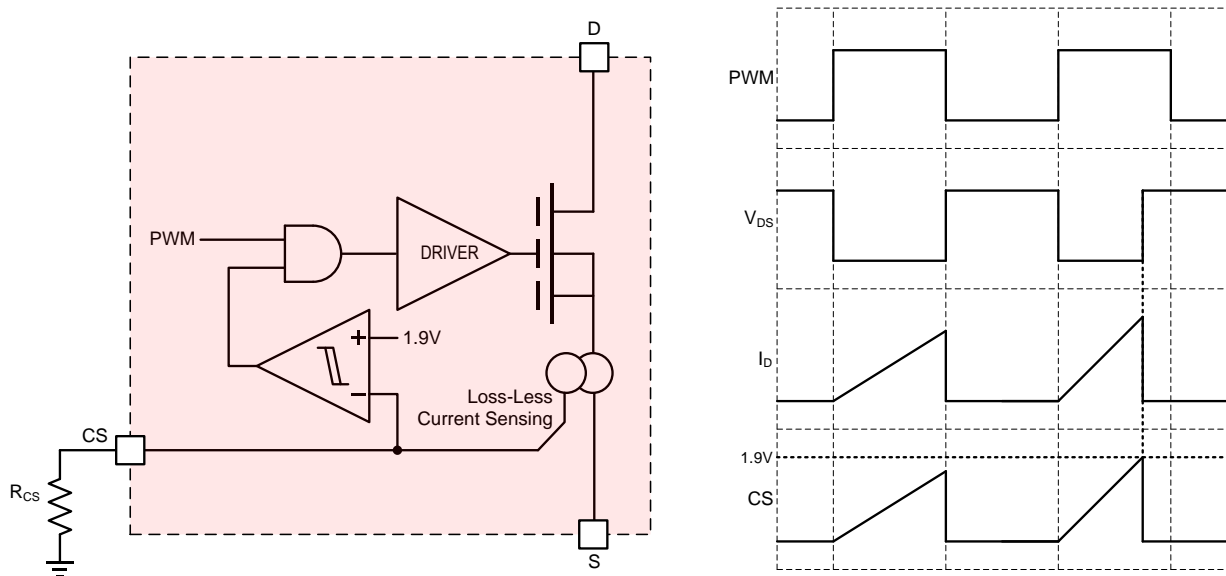

Fig. 21. Current Sense Circuit and Timing Diagram
In many systems implemented with a peak current mode control or over current protection (OCP) functions, the current flowing through the power FET needs to be sensed. To sense the current, most solutions use a current-sense resistor in series with the FET and it increases power loss and introduces more parasitic inductance into the power loop. ISG6107 employs a current-sense circuit without any external resistor to sense the current as shown in Fig. 21. The loss-less current-sense circuit converts the current flowing through the GaN FET to the output current signal of CS pin with a conversion ratio of 3520:1 (typical). The output current of CS pin can be converted to the voltage by a resistor, R_{CS} , placed between CS pin and ground. The value of R_{CS} can be adjusted to provide the current-sense voltage with a proper voltage range for various controllers. The voltage on CS pin, V_{CS} , is determined by equation (1).
where I_D is the drain current of GaN FET. Fig. 21 shows the switching timing diagram of the current sense output.
The ISG6107 provides a cycle-by-cycle over current protection based on the current-sense signal, V_{CS} , to protect the GaN FET. As illustrated in the timing diagram of Fig. 21, when the CS-pin voltage exceeds 1.9V (typical), the GaN FET is turned off. GaN FET will be turned on again at the next rising edge of PWM signal. The current limit by OCP can be calculated by equation (2).